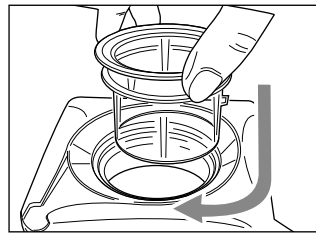

Fig. 4
- Close the upper hole of the lid (B) by inserting the apposite cap (A) and rotating it clockwise (Fig. 4). Make sure the lid (B) and the cap (A) are properly inserted to prevent food from coming out during the